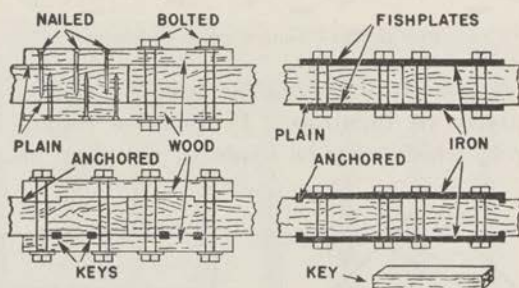

FIGURE 71.—Splice joints.
(1) Splice joints (fig. 71) consist of two pieces of wood placed end to end with cover pieces, or fishplates, bolted or nailed on each side. Those shown at the top of the figure are designed to resist compression and those at the bottom are designed to resist tension.
(2) A scarf joint is an endwise lap joint made by beveling, notching, or otherwise cutting away two pieces to form one continuous piece when nailed, screwed, bolted, or glued together. Often they are both screwed and glued. Sometimes fishplates are used. Some scarf joints